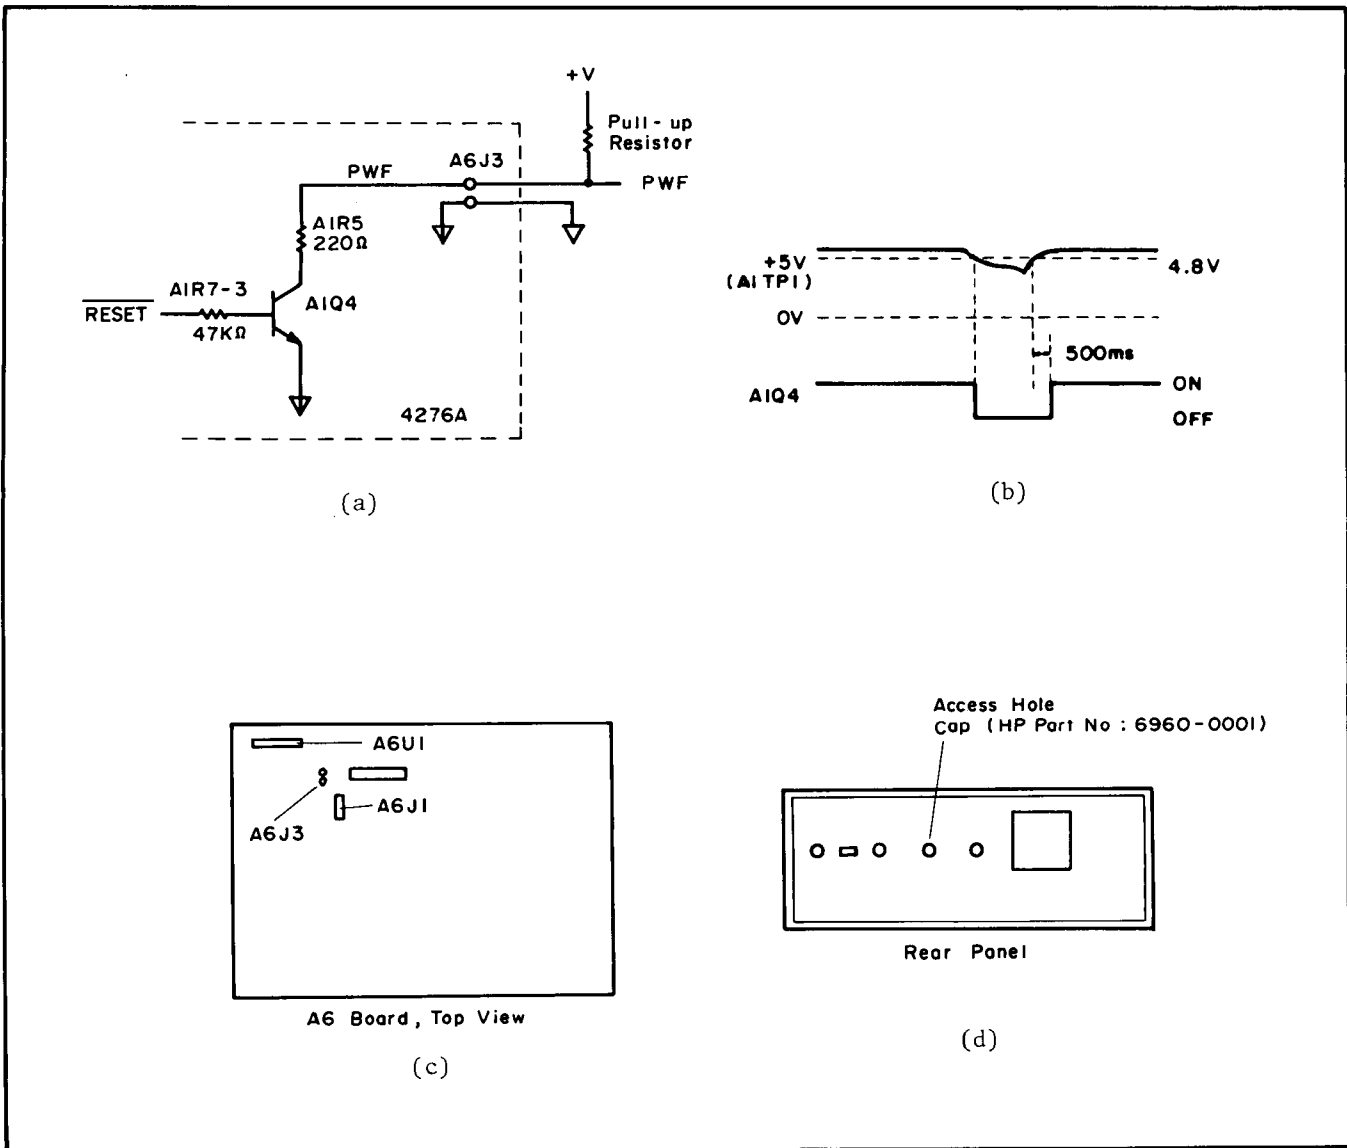

Figure 2-6. Power Failure Monitor Installation.
2-32. To use the power failure monitor signal, you must solder two wires to a jumper on the mother board, remove a cap from a hole on the rear panel, and bring the wires out through the hole. The procedure is given below. A simplified drawing of the open collector circuit, a timing diagram, and the locations of the jumper and hole are shown in Figure 2-6. Refer to paragraph 2-114 for a description of the power failure monitor signal.
7. Solder a wire to each terminal of A6J3. The location of A6J3 is shown in Figure 2-6 (c).
8. Remove the cap from the access hole in the rear panel, as shown in Figure 2-6 (d).
11. Connect the pull-up resistor and external voltage source as shown in Figure 2-6 (a).